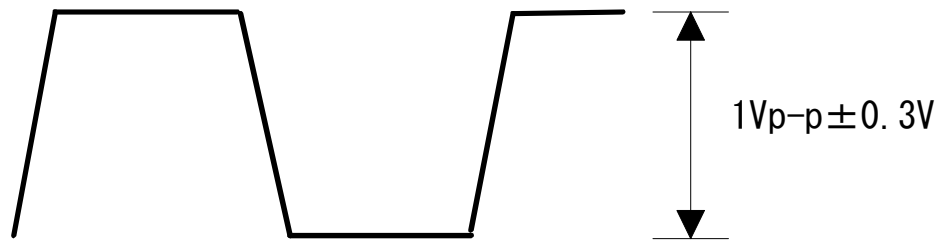

Fig. 7-2 Specification of the clock output signal waveform
4. Confirm that the amplitude of the waveform measured by the sampling oscilloscope is in the range according to Fig.7-2.